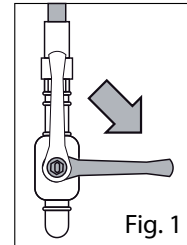

Fig. 1
- Close the cut-off cock upstream the machine (Fig. 1);
- Close the cut-off cock upstream the machine (Fig. 1).
- Replace the pilot injector (Fig. 1) with the one corresponding to the selected gas according to what reported in the reference Table (see Gas reference Table).